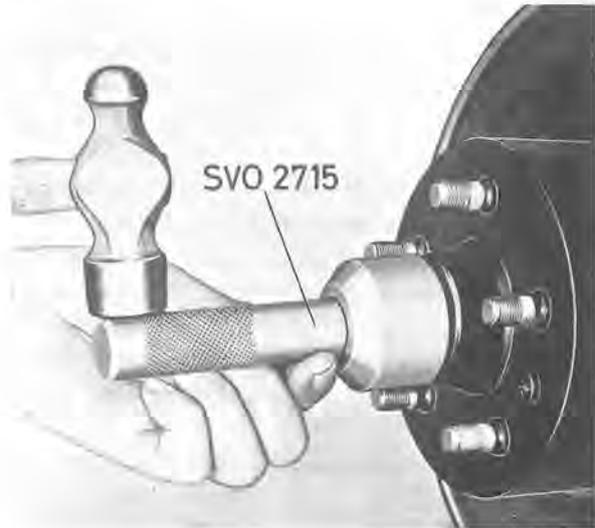
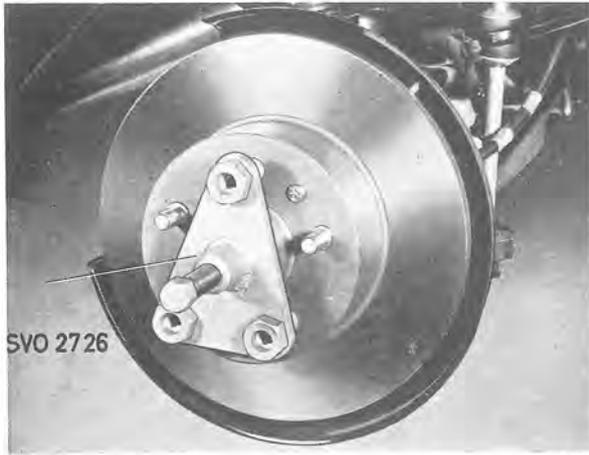
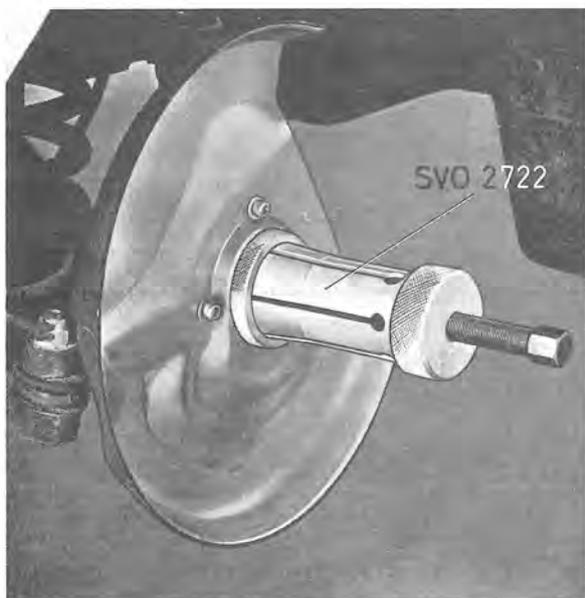

Fig. 6-16. Removing the grease cap
Fig. 6-17. Removing the front wheel hub
Fig. 6-18. Removing the inner bearing
2. Remove the grease cap with tool SVO 2715, see Fig. 6-16. Remove the split pin and castle nut. Pull off the hub with puller SVO 2726, see Fig. 6-17. If necessary pull off the inner bearing from the stub axle with tool SVO 2722, see Fig. 6-18.